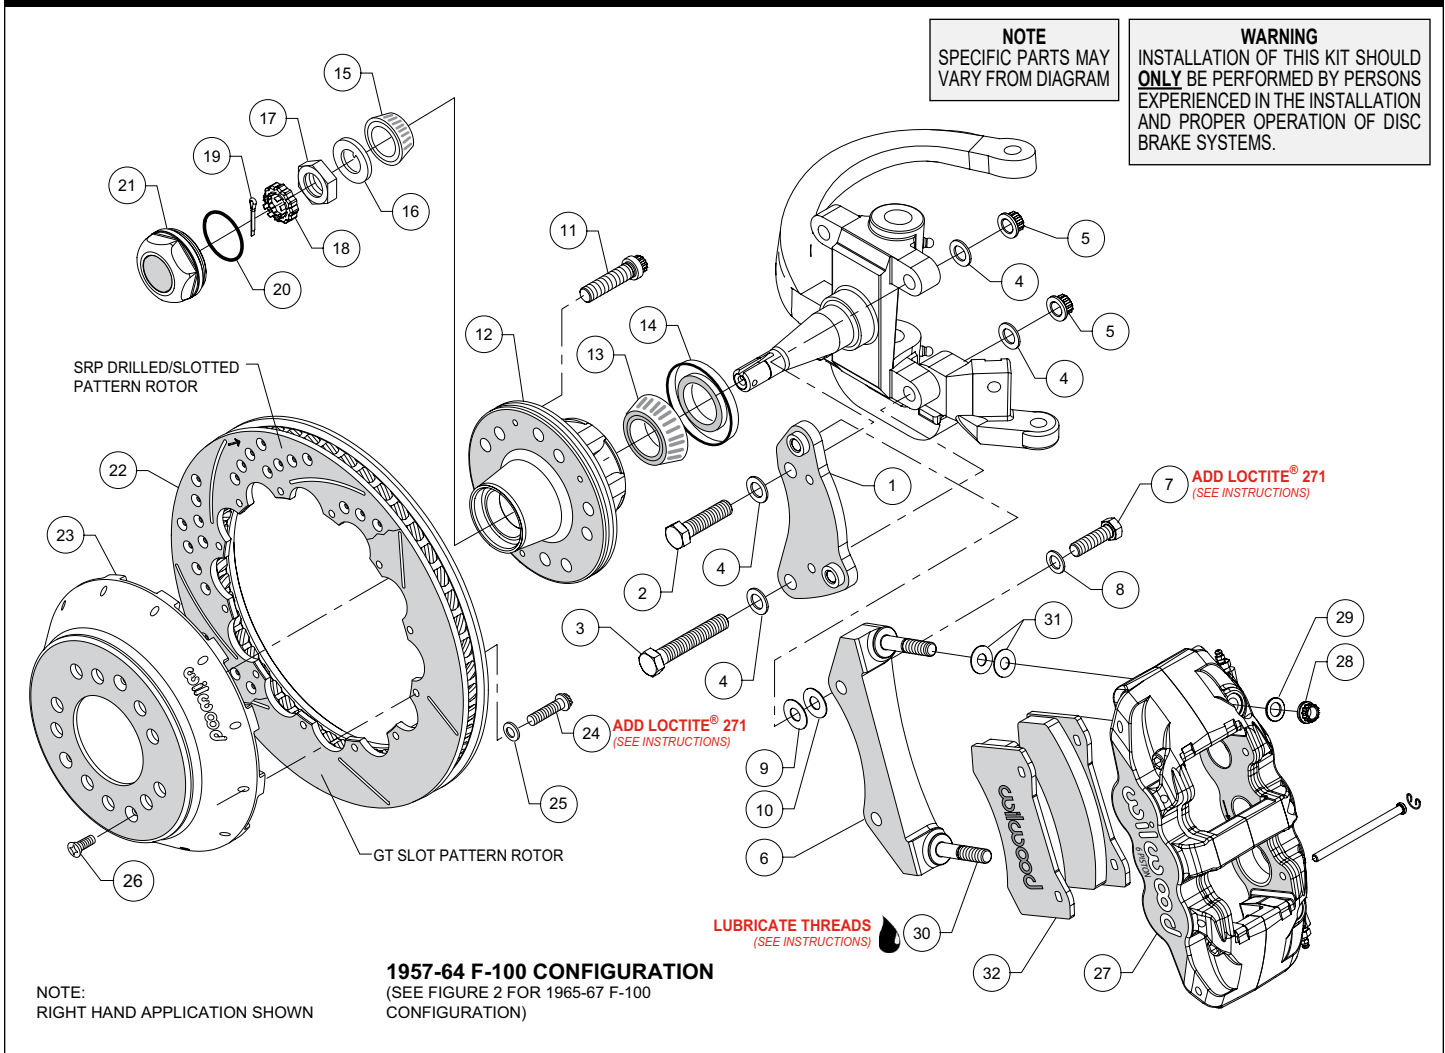
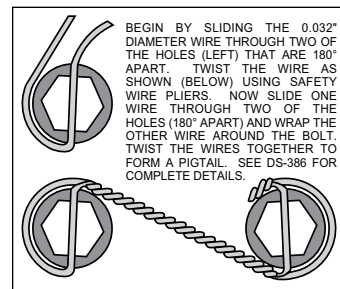
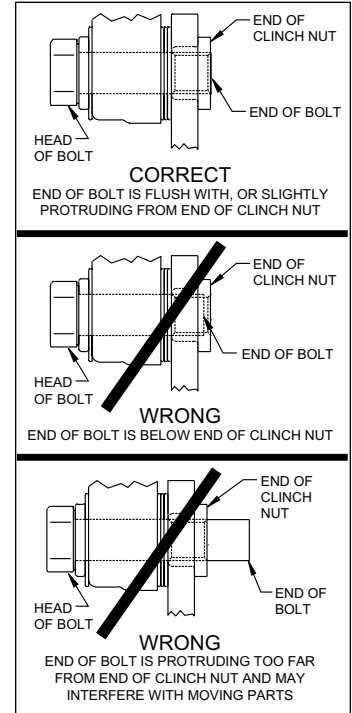

Figure 1. Typical Installation Configuration, Model Years 1957-1964
Figure 4. Safety Wire Diagram
Figure 5. Clinch Nut Engagement Diagram
Assembly Instructions (numbers in parenthesis refer to the parts list, on the preceding page and Figures 1 and 2). **CAUTION:** All mounting bolts must fully engage clinch nuts. Be sure to check that all bolts are either flush or protruding through flanged side of clinch nut after shimming, Figure 5.
- Orient the spindle bracket (1) as shown in Figure 1 or 2, and Photo 1, and install using bolts (2 and 3), washers (4) and nuts (5). Temporarily tighten the mounting bolts. Ensure that the flanged heads of the clinch nuts in the bracket are facing outboard, Photo 1. **NOTE:** The bracket must fit squarely against the mount bosses on the upright. Inspect for interference from casting irregularities, machining ridges, burrs, etc. Torque lock nuts (5) to 65 ft-lb.
- The caliper mount radial bracket (6) should initially be installed with clean, dry threads on the mounting bolts. Orient the bracket as shown in Figure 1 or 2, and Photo 2. Install onto the spindle bracket using bolts (7), and washers (8). Initially place one .030 thick shims (9) on each bolt between the radial and spindle brackets, Figure 1 or 2. Temporarily tighten the mounting bolts. Later, after the caliper alignment has been checked, the mount bolts will be secured using red *Loctite*® 271.
- Install wheel studs (11) into the hub (12), Photo 3. Torque to 77 ft-lb. **NOTE:** There are two five lug patterns in the hub (5 x 4.50 and 5 x 4.75). Ensure the correct hub stud pattern is being used to fit the wheel application.
- Pack the large inner bearing cone (13) with high temperature disc brake bearing grease (available from your local auto parts store) and install into the backside of the hub (12), Photo 4.
- Install the grease seal (14, years 1957-1964) or (14A, years 1965-1967) by pressing into the backside of the hub (12), flush with the end of the hub, Photo 5.
- Pack the small outer bearing cone (15) with high temperature disc brake bearing grease and install into the front side of the hub (12), Photo 6. Slide the hub assembly onto the spindle. Secure using spindle washer (16) and spindle nut (17). Adjust bearings per OEM specifications. Install spindle nut retainer (18) and cotter pin (19), Photo 7.
- Screw dust cap (21) into hub (12), Photo 8. Friction created by the o-ring (20) on the dust cap keeps it from unscrewing. **NOTE:** The O.D. of the existing OEM spindle washer may be larger than the I.D. of the dust cap not allowing it to seat against the hub face. Therefore, use the spindle washer (16) supplied with the kit instead of the OEM washer.
- Orient the rotor (22) and the hat (23) as shown in Figure 1 or 2 and Photo 9. Attach rotor to hat using bolts (24) and washers (25). Apply red *Loctite*® 271 to the bolt threads and torque to 155 in-lb using a criss-cross pattern. For an added measure of security, the bolts may be safety wired using standard 0.032 inch diameter stainless steel safety wire as shown in Figure 4. Refer to Wilwood's data sheet DS-386 (available at www.wilwood.com/Pdf/DataSheets/ds386.pdf) for complete safety wire installation instructions.
- Slide the hat/rotor assembly (23/22) onto the hub (12) taking care to align the small countersunk holes in the hat with the small threaded holes in the hub, Photo 10. **NOTE:** The hat must fit flush against the hub face or excessive rotor run out may result. Install three flat head screws (26) through the small holes in the hat, and torque to 85 in-lb.
- NOTE:** This kit contains distinct right and left hand calipers that must be mounted in a specific direction, as described below. Lubricate the caliper mounting studs (30) with lightweight oil. Initially place two .030" thick shims (31) on each stud between the caliper and the bracket, as shown in Figure 1 or 2, and Photo 11. Mount the caliper (27) onto the bracket (6) using lock nuts (28) and washers (29), Figure 1 or 2. Ensure that the caliper is mounted so the largest pistons are at the rotor exit end of the caliper, in relation to the direction of rotor rotation. Temporarily tighten the lock nuts and view the rotor through the top opening of the caliper. The rotor should be centered in the caliper, Photo 12. If not, adjust by adding or subtracting shims (9 and/or 10)
- Remove the two pad retaining pins from the caliper (27) by carefully popping out the pin retaining clips and sliding out the pins. Insert the brake pads (32) into the caliper from the bottom, Figure 1 or 2, and Photo 13. With the friction material facing the rotor, secure the brake pads in place with the pad retaining pins and clips, Photo 14. Reinstall the caliper onto the caliper mounting bracket and temporarily tighten the lock nuts (28). Check that the top of the brake pad is flush with the outside diameter of the rotor, Photo 15. If not, adjust by adding or subtracting shims (31) between the caliper and the bracket. After the caliper pad height is set, torque the caliper lock nuts (28) to 47 ft-lb.